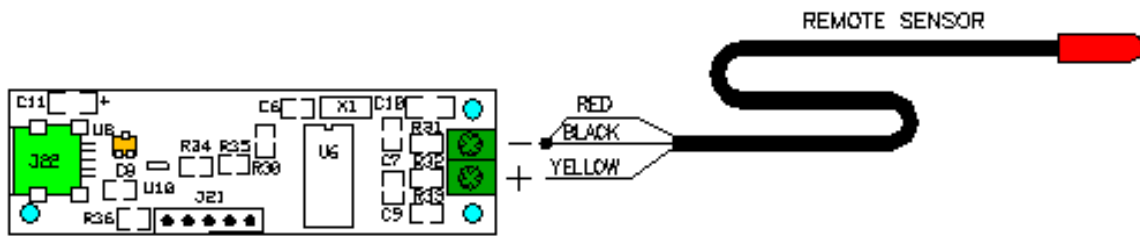
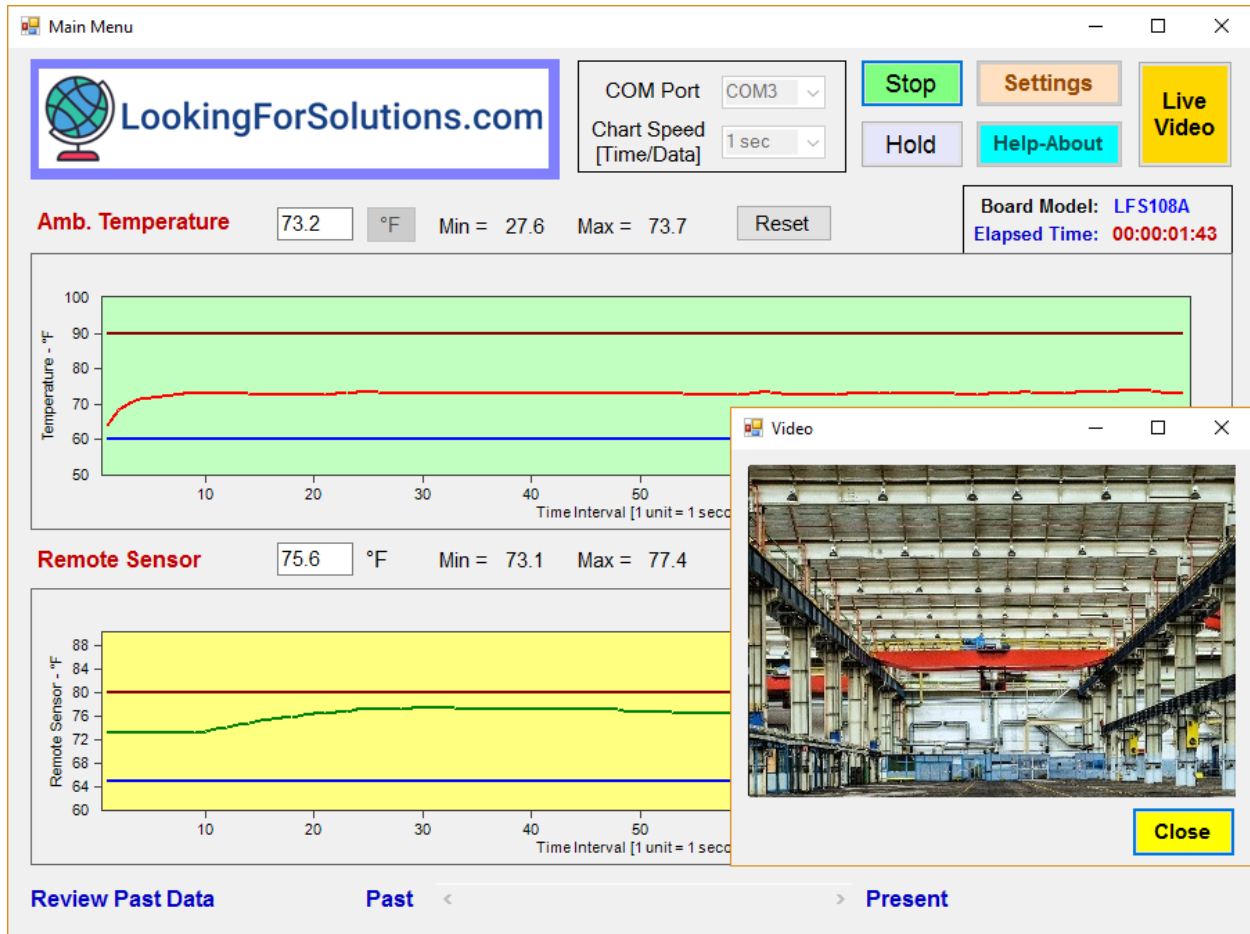

Figure 2 – Wiring connection of the Remote Probe to the board
Figure 3 – Main Screen – Real Time
- Connect the remote probe to the board. See Figure 2.
Figure 2 shows how to connect the remote probe (included) to the board terminal block. Figure 3 shows the main screen. You can set the COM port and the Chart Speed (Time interval per data point) from the drop down menus. Click the Start button. The program asks for the name of data file to be saved. You can name your data file (Filename.txt or Filename.csv) and the location where you want to save it. Click the Save (or Cancel) button. The program will start reading and displaying the ambient temperature, and the remote temperature from the board and provides a line graph of the two parameters. It also shows the model number of the board (LFS108A) and the running Elapsed time.